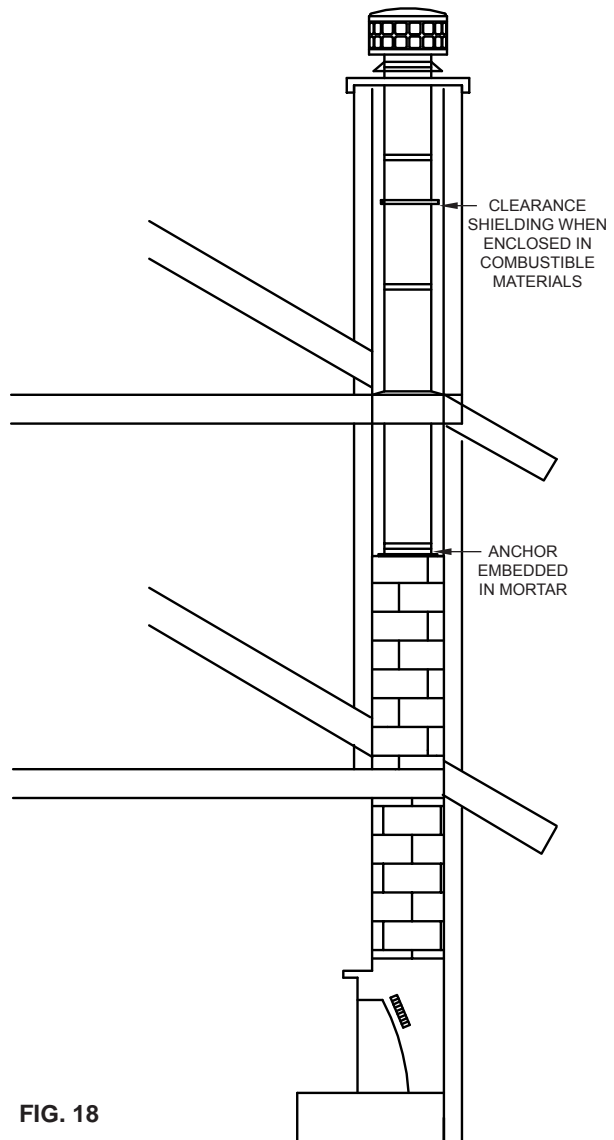

FIG. 18
5. When the mortar has set up, tighten the nuts onto the bolts. Proceed to stack Metal-Fab chimney pipe (TG) on the anchor plate. If the chimney pipe (TG) is enclosed with combustible materials, proper clearance shields must be installed (See FIG. 18).